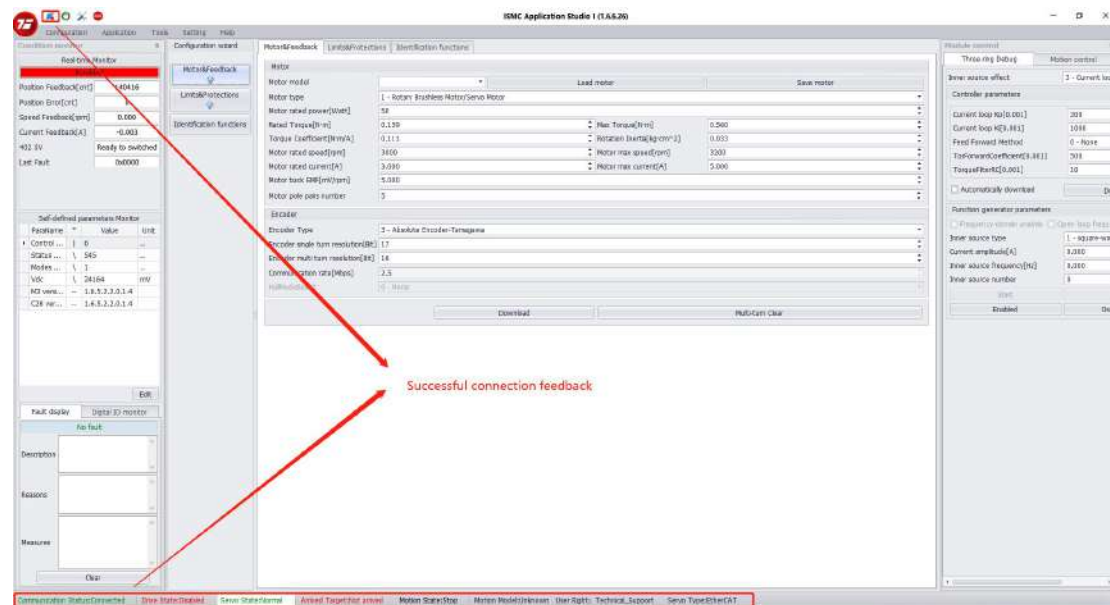

Figure 3-3 Successful connection
- ⑤ Select the port number to connect to the drive.
- ⑥ Click on the **"Connect"** button to complete the communication connection.
- ⑦ After successful connection, you can see the status feedback of successful connection on the interface, as shown in Figure 3-3.